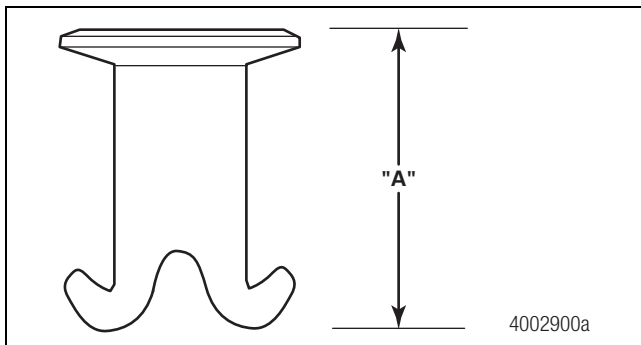

Figure 8.16
- B. Measure distance A, which must be 0.460-0.475-inch (11.684-12.065 mm). Figure 8.16.